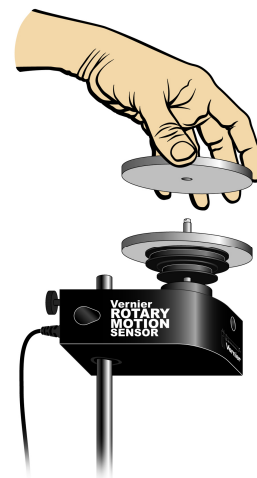

Figure 2
4. Obtain the second aluminum disk from the accessory kit; determine its mass and diameter. Position this disk (cork pads down) over the sleeve of the screw holding the first disk to the pulley. Practice dropping the second disk onto the first so as to minimize any torque you might apply to the system (see Figure 2).